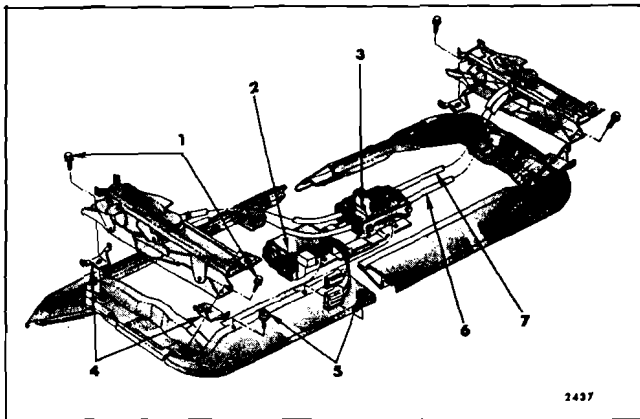

Fig. 15-10—Front Seat Adjuster, Motor and Transmission - "A" Styles - Four-Way Adjusters
2. Disconnect both power drive cables from actuator motor (Fig. 15-10).
3. Remove screws that secure actuator motor support bracket to seat bottom frame and remove actuator motor with attached support bracket from seat assembly (Fig. 15-10).
3. Remove screws securing motor and transmission support to seat bottom frame (See Fig. 15-10).
2. Remove seat adjuster-to-seat bottom frame front and rear attaching bolts on side affected (Fig. 15-10).